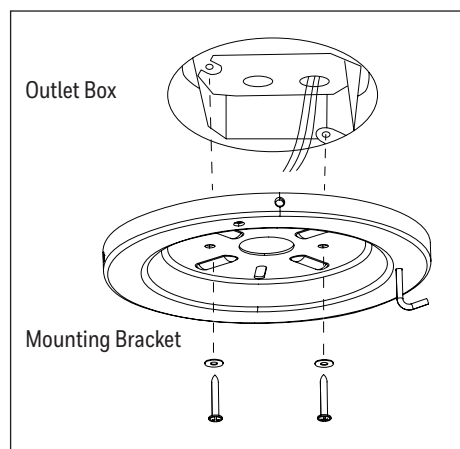

Figure 2.2
2. Install the mounting bracket to the outlet box (sold separately) using the screws and washers provided with the outlet box. **WARNING:** To reduce the risk of fire, electric shock, or personal injury, mount to the outlet box marked “acceptable for fan support” (Figure 2.2).